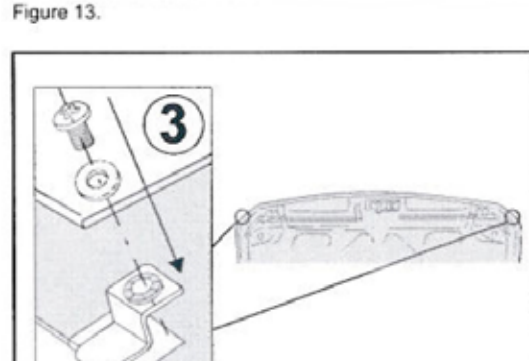

Figure 14. Securing Hood Protector
14. Secure the outer wing sections of Hood Protector to metal clips with the screws and washers provided, as shown in figure 14.